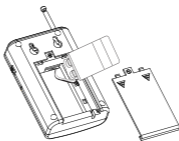

Fig.1
- Remove cover from back of unit and install supplied 9V battery (fig.1)